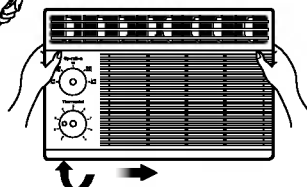

Fig. 4
3. Push the grille up from the bottom and pull the top of the grille away from the case as the top tabs lift out of their slots. (Fig. 4)